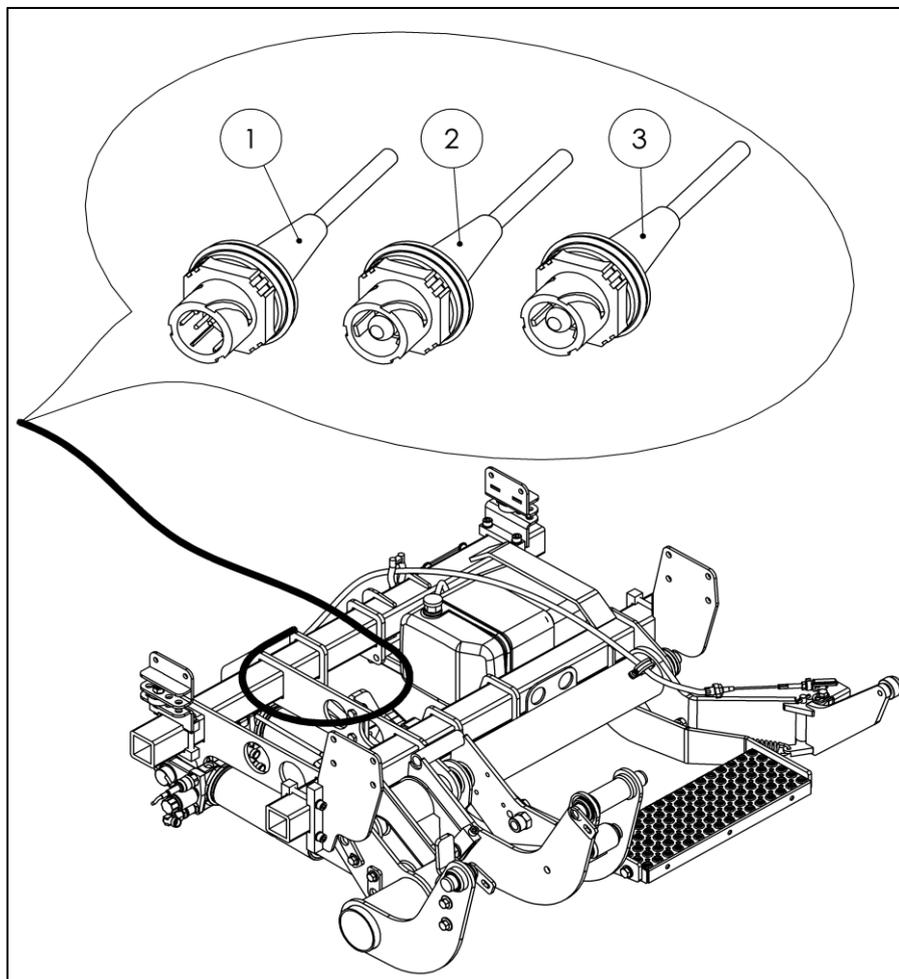

Fig. 18
- Route the power cable and the cable for the cabin switch unit to the junction box provided (Fig. 18).